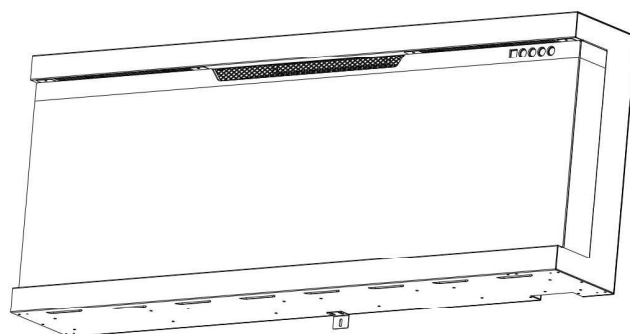

Fig 1-2
B.Using the screw previously removed, attached the L-bracket **(J)** to the bottom of the fireplace box.**(Fig 1-2)**